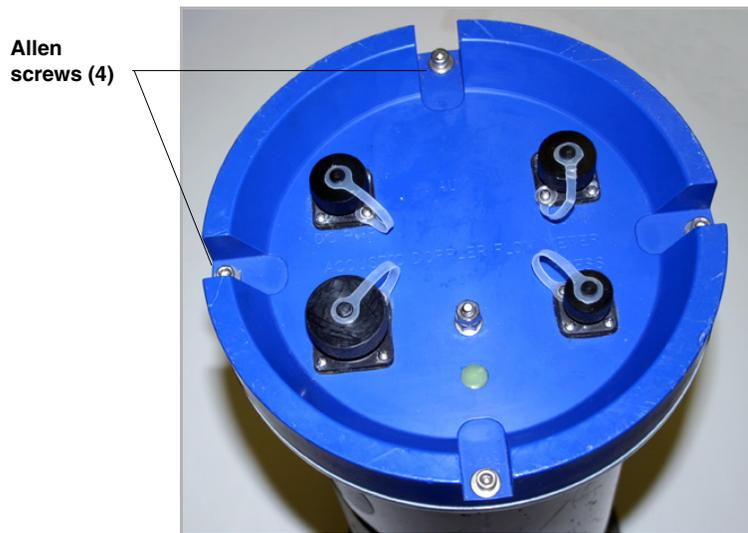

Figure 3-5 Canister controller: opening the electronics lid
1. Remove the four $\frac{3}{16}$ " Allen screws holding the electronics cover in place (Figure 3-5).